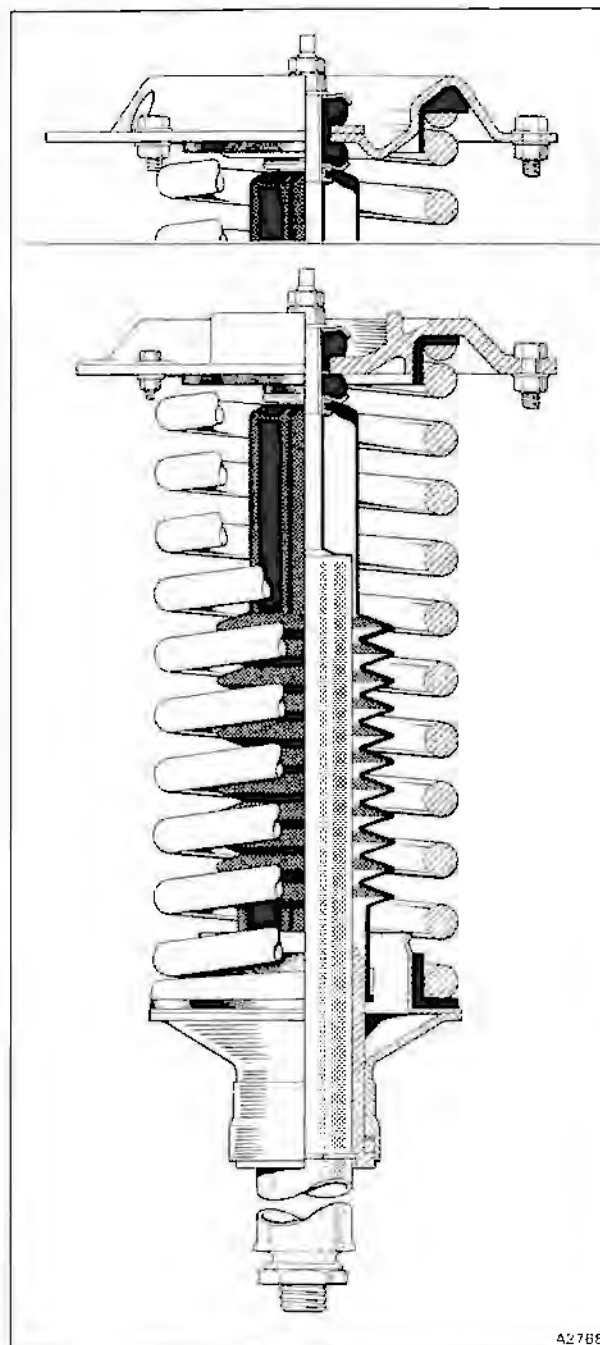

Fig. H4-1 Front road spring and shock damper assembly
The shock dampers (see fig. H4-1) are of the sealed unit type and no servicing is required. In the event of a damper becoming faulty, it should be discarded and a new damper fitted.
When using the spring retention tools RH8809 and RH7909 on cars fitted with pressed steel spring plates (see fig. H4-1), it will be necessary to use the adapter plate RH12053.
Note Care should be taken to avoid damaging the convoluted rubber sleeve situated between the spring plate collar and the upper damper mount (see figs. H4-1 and H4-2) during damper withdrawal. The sleeve will prevent the collar being withdrawn from the spring support plate. In the event of the collar having seized to the damper, remove the nuts securing the top of the damper then carefully release and lift the spring from the spring support plate as described in the following operations.
5. Fit the washer onto the damper stem then insert the damper into the spring assembly. Ensure that all the components are correctly located (see fig. H4-1). Fit the top mount rubber, distance piece, cup washer, and plain washer onto the damper stem. Fit and torque tighten the retaining nut and lock-nut.